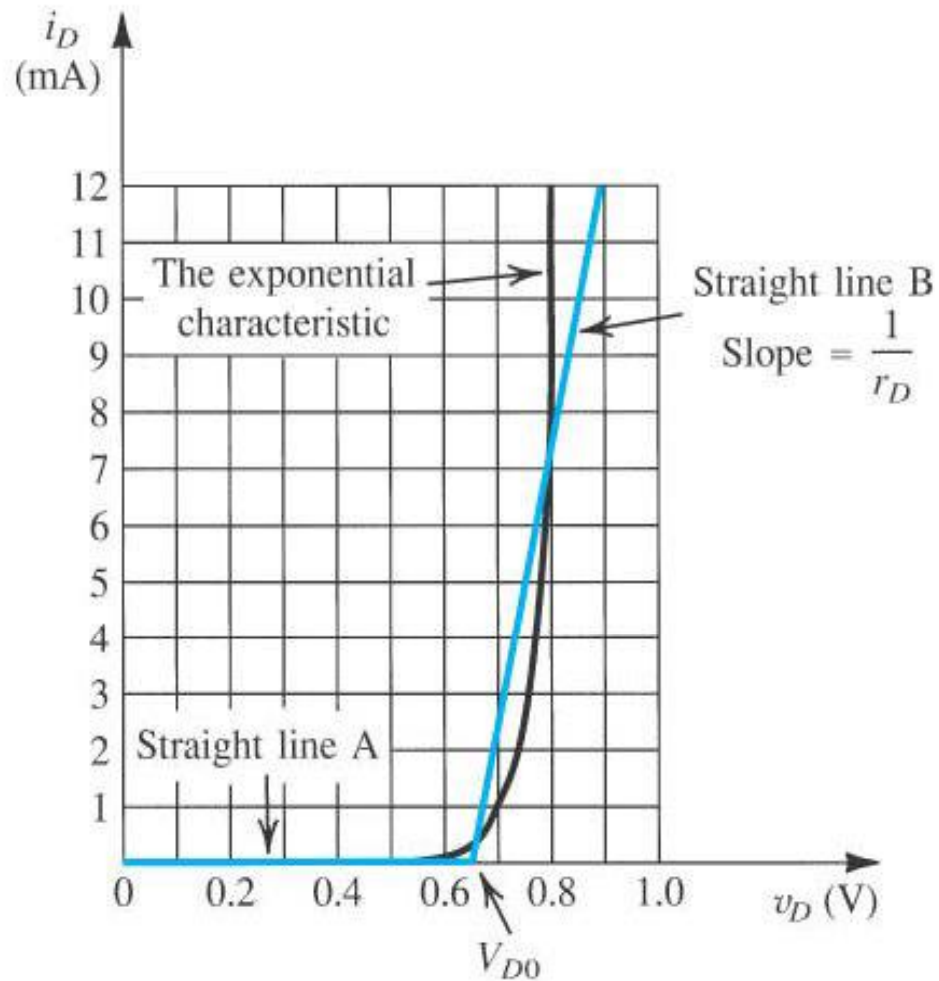

Figure 3.12 Approximating the diode forward characteristic with two straight lines: the piecewise-linear model.
- An attempt is made in this direction illustrated in Fig. 3.12, where the exponential curve is approximated by two straight lines, line A with zero slope and line B with a slope of $1/r_D$.
- The straight-lines (or piecewise-linear) model of the Fig. 3.12 can be described by